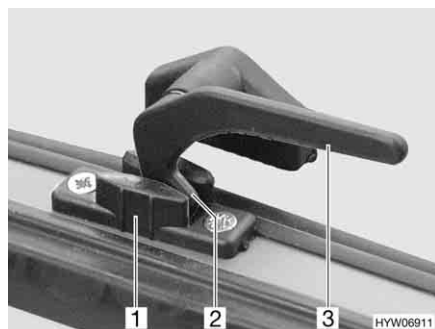

Fig. 49 Catch lever in the "continuous ventilation" position
- "Continuous ventilation" (Fig. 49)
- Turn the catch lever (Fig. 49,3) a quarter turn towards the centre of the window.
- Return the catch lever to its initial position. The locking catch (Fig. 49,2) has to be moved into the recess of window catch (Fig. 49,1).